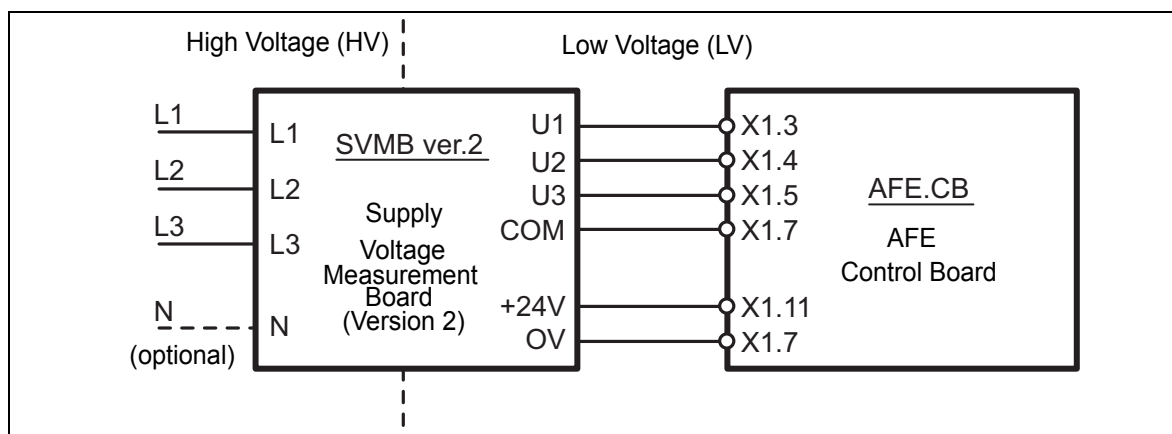

Fig. 32 Grid measurement circuit by means of SVMB ver.2 for AFE
The grid voltage is measured by means of the AFE option "Supply Voltage Measurement Board version 2" (SVMB ver.2). The SVMB ver.2 is a mandatory AFE option requirement in order to fulfill the basic grid codes, i.e. grid voltage and frequency protection functions. The SVMB ver.2 should be connected to the grid phase voltages on the high voltage (HV) side and provides for galvanically isolated conversion to the low-voltage (LV) side which should in turn be connected to (and fed from) the user I/O on the AFE control board (CB), see Fig. 32.